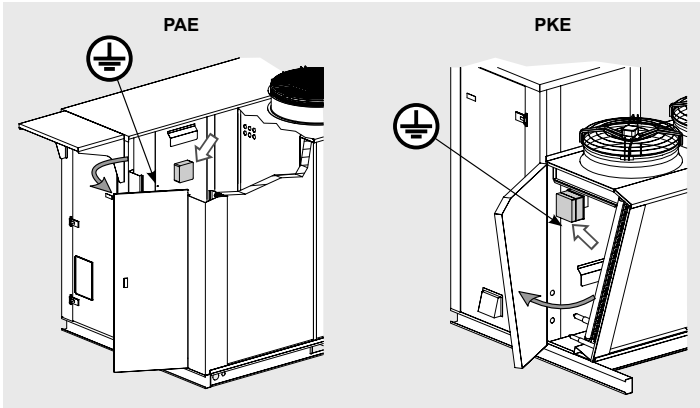

Figure 1
- To minimise the risk of indirect contact, the electrical system can be earthed using the relevant pin (see "Figure 1").